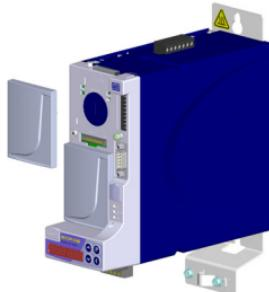

Figure 4.1: Remove the protective cover
2. Remove the protective cover from the slot, as shown in figure 4.1.